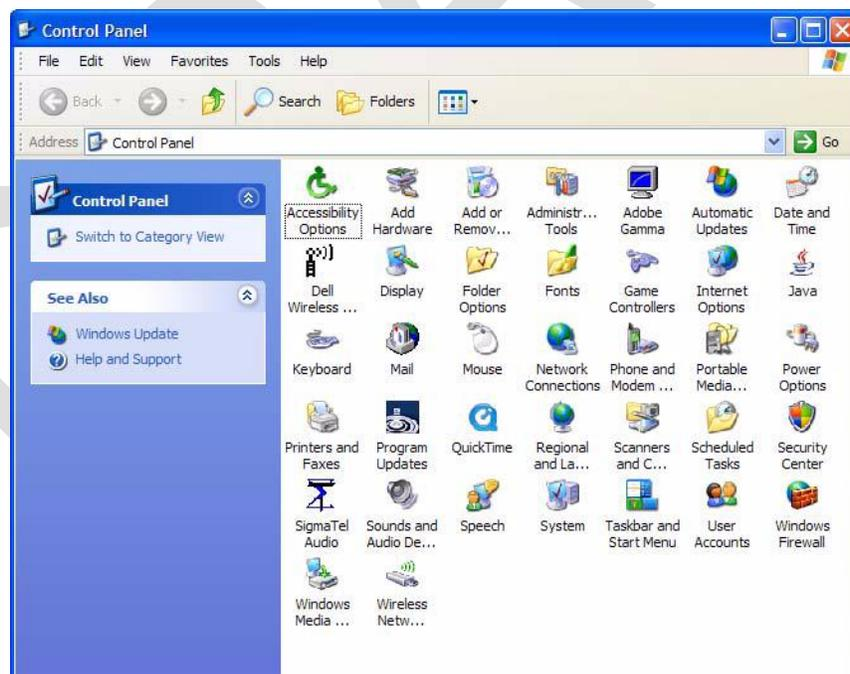

Figure 8-8 Control Panel
1. From the **Start** menu, point to **Settings** and then click **Control Panel**. (Figure 8-8).